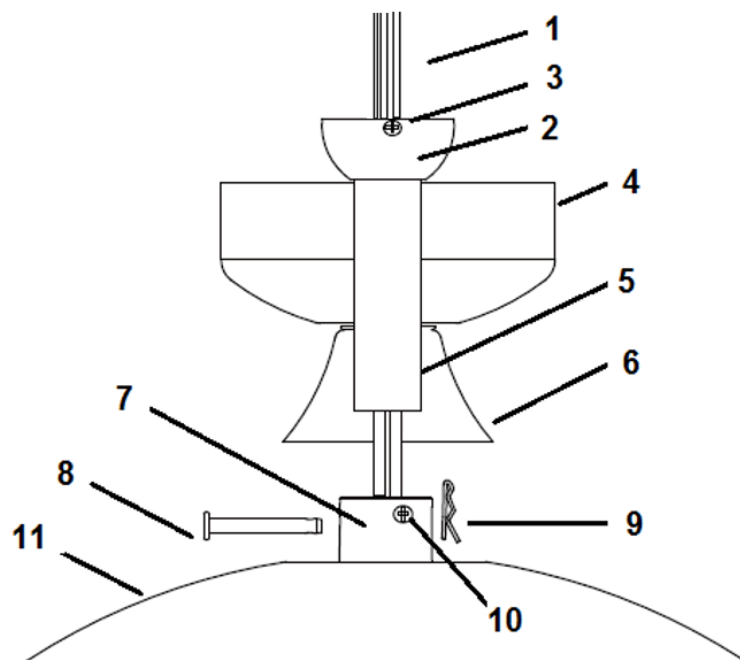

Fig. 6
INSTALLING THE DOWN ROD (Fig. 6)
1. Feed the down rod (5) through the canopy (4) and the bolt and pin cover (6).
2. Remove the ball joint (2) by loosening the set screw (3), insert the motor wires through the down rod then secure the ball joint back to the down rod.
3. Insert the down rod to the coupling (7), line up the coupling holes with the down rod holes and insert the bolt (8). Then insert the pin (9) to the end of the bolt.
4. Finally secure the down rod and coupling by tightening the two set screws (10) on the coupling. **Fig. 6**